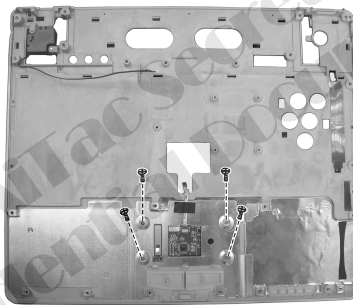

Figure 2-31 Free the touch pad
2. Remove the four screws and lift the shielding, then free the touch pad. (Figure 2-31)